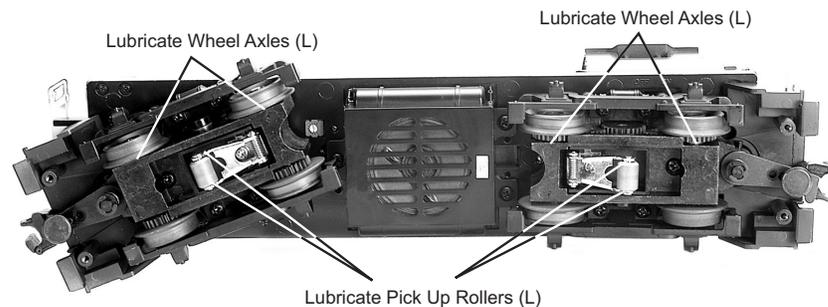
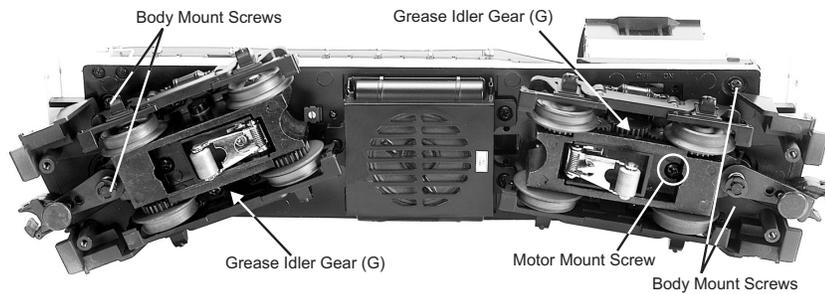

Figure 2. Lubrication Points on the Engine
Figure 3. Greasing Points on the Engine and Locations of Body Mounting Screws
Although the engine was lubricated at the factory, it is important that you lubricate the chassis before operation. Lightly grease the outside idler and drive gears (marked “G” in Fig. 3 on pg. 9) to prevent them from squeaking. Use light household oil and follow the lubrication points marked “L” in Fig. 2 on pg. 8. Do not over-oil. Use only a drop or two on each pivot point.
You should regularly lubricate all outside idler gears and pickup rollers to prevent them from squeaking. Use light household oil and follow the lubrication points marked "L" in Fig. 2. Do not over oil. Use only a drop or two on each pivot point.
1. Remove the Phillips screws from the chassis, as seen in Figure 3 on pg. 9, then lift the body away from the chassis. Use caution when removing the body to make sure the handrails clear the cab housing so that the paint is not damaged.
2. Remove the truck blocks from the chassis by unscrewing the black Phillips motor mount screw (labeled motor mount screw in Figure 3 on pg. 9) on the bottom of each truck block.
It is also a good idea to lubricate the outside truck block idler and drive gears with grease occasionally. Add grease to the points marked with “G” in Figure 3.